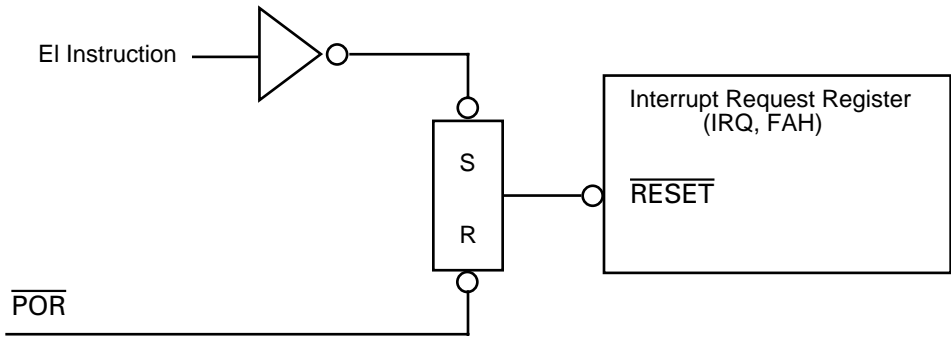

Figure 7-10. IRQ Reset Functional Logic Diagram
**Note:** Setting the Global Interrupt Enable bit in the Interrupt Mask Register (IMR, bit 7) will not enable the IRQ. Execution of the EI instruction is required (Figure 7-10).